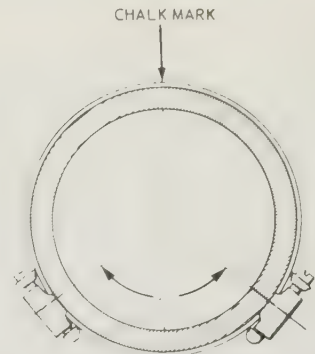

Fig. 7.5. Movement limit of clips (Sec. 6)
- 8 Should, however, a vibration still exist rotate the clips approximately 45° away from each other and retest (Fig. 7.5).